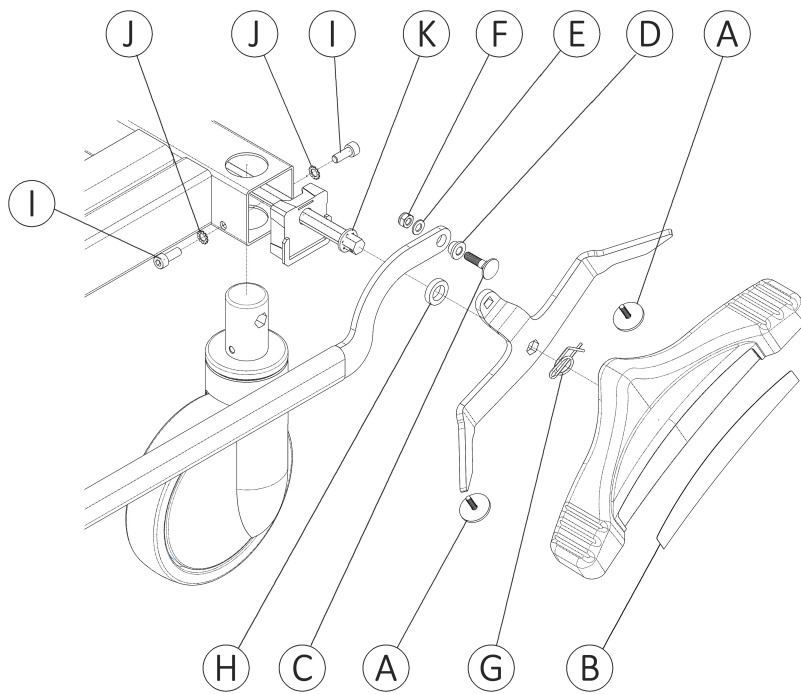

Figure 6 – Non-steer caster
4. Using needle nose pliers, remove and discard the rue ring cotter pin (G) from the hex shaft (Figure 6).
5. Pull the brake pedal off the hex shaft and set aside (Figure 6).
6. Remove and save the plastic washer (H) that is on the hex shaft (Figure 6).
7. Using a hammer and a large screw driver, remove and discard the starlock retainer (K) that is on the hex shaft (Figure 6).
8. Using a 5 mm hex wrench, remove and discard the two screws (I) and washers (J) that secure the non-steer caster to the base frame (Figure 6).